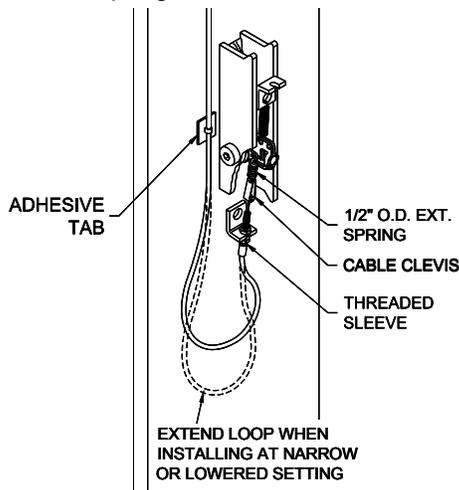

Fig. 14 – Idler Column Lock Assembly
- 33) Attach Adhesive-Backed Tab to Idler Column left of the lock assembly (**Fig 14**). Route Lock Release Cable down left side of Idler Column and secure with loosely fit wire tie to Adhesive-Backed Tab. Attach Cable clevis to 1/2" O.D. Extension Spring.
- 34) Insert threaded sleeve portion of cable assembly in slot located on tab below lock pawl, **Fig. 14**. With one jam nut located on each side of tab, adjust the threaded sleeve to begin to pull tension on the 1/2" O.D. spring. Snug jam nuts by hand.